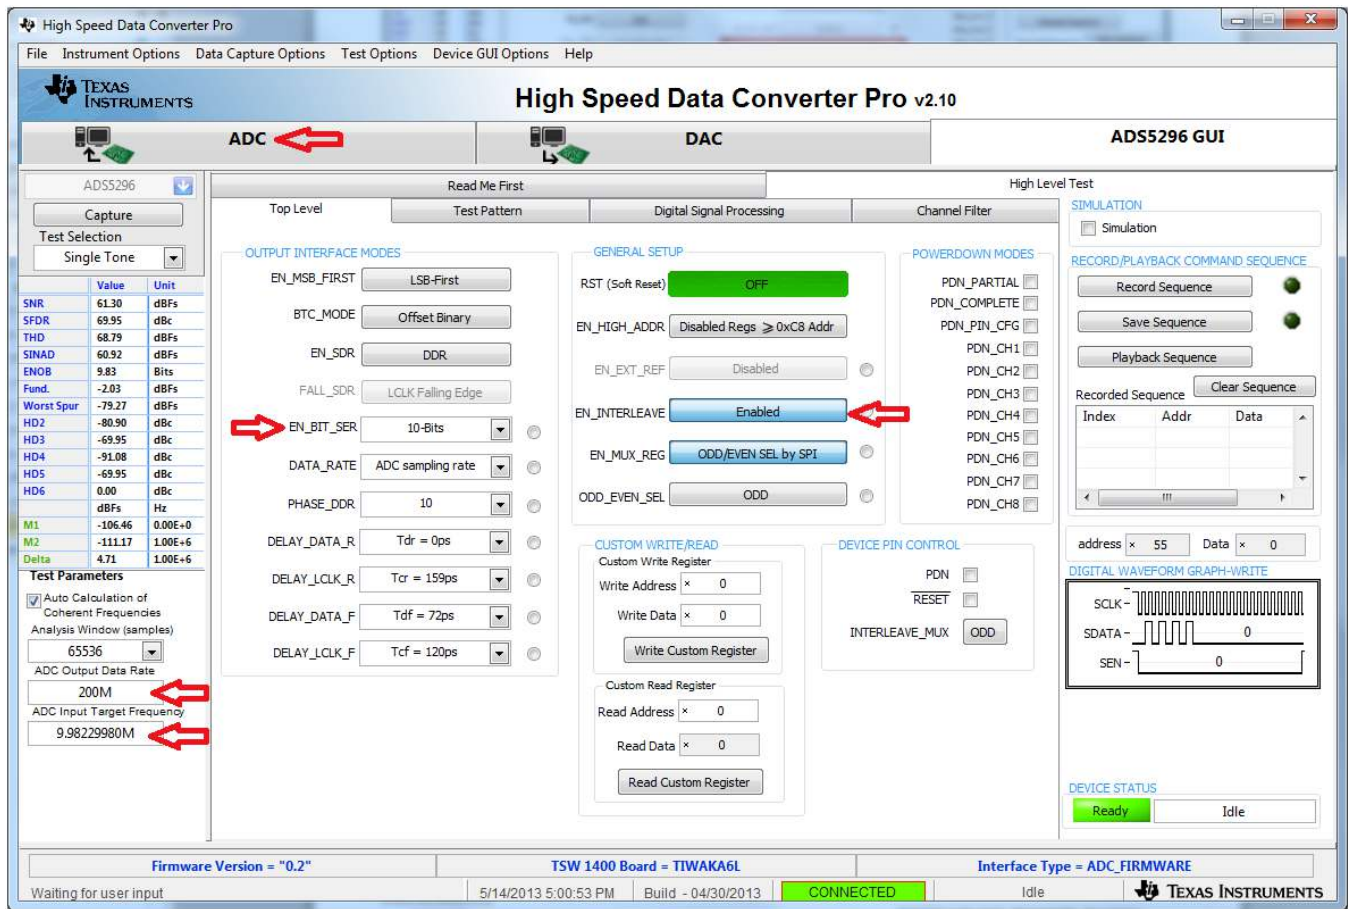

Figure 48. Quad-Interleaving Mode GUI Setup
2. From the *ADS5296 GUI, Top Level* tab, make the following changes as shown in Figure 48. With this configuration the ADS5296 will be sampling channel 1 since the **ODD\_EVEN\_SEL** is set to **ODD** in the software GUI.